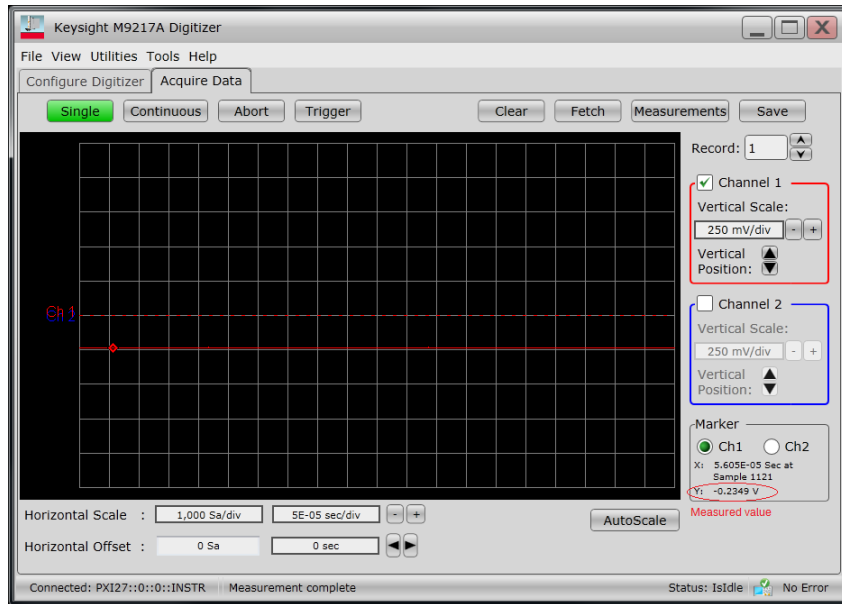

Figure 10 Data acquisition and measurement result
- 5 On the M9217A PXIe 2-CH Digitizer SFP, click on the **Acquire Data** tab. Click on **Single** to measure. The result will be displayed as shown in **Figure 10**.